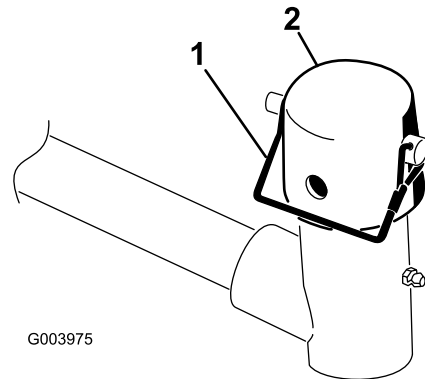

Figure 9
- Remove the snapper pin and the cap from the lift-arm pivot yoke (Figure 9).